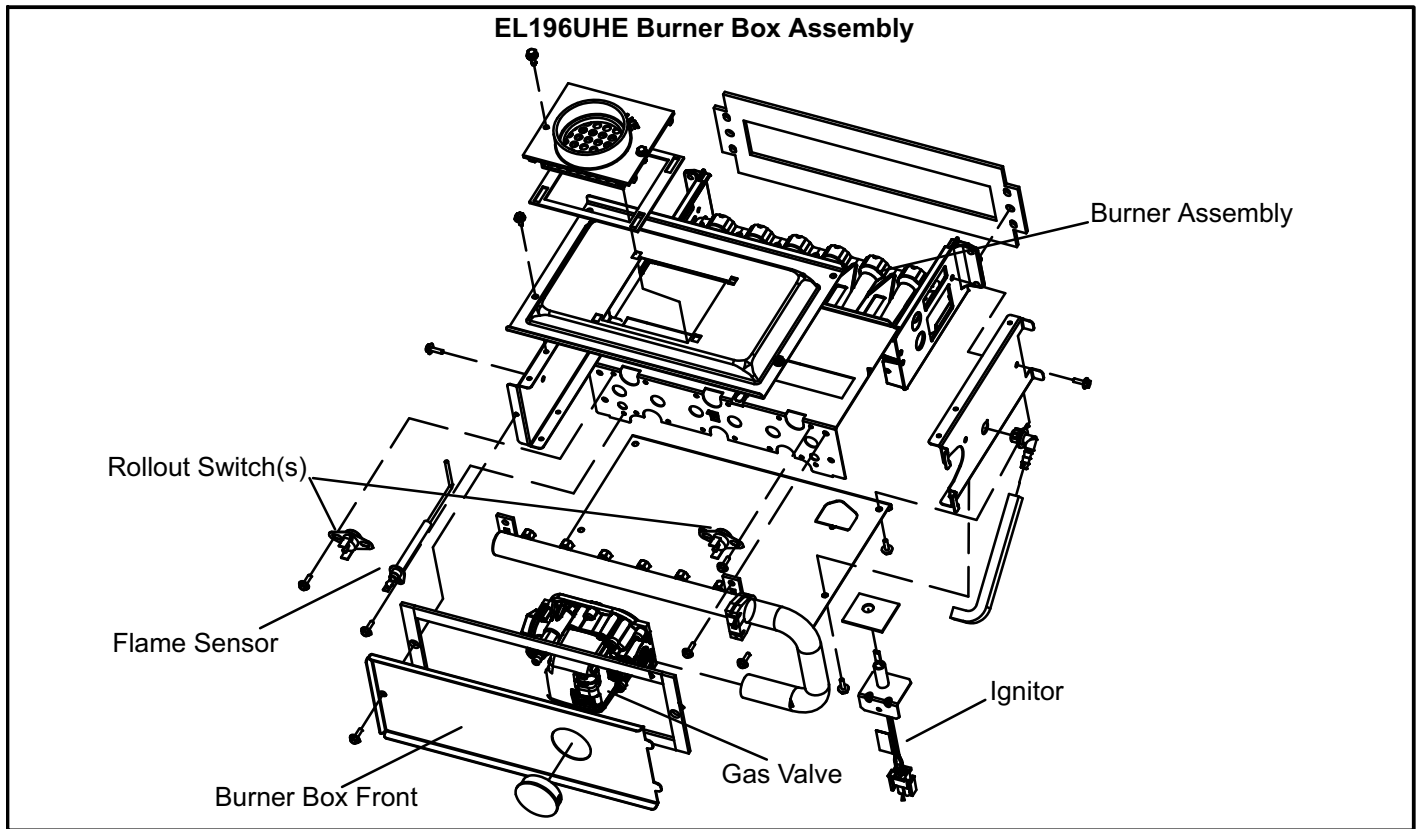

FIGURE 6
The hot surface ignition control system consisting of an integrated control (figure 3 or 5 with control terminal designations in tables 1, 2 and 3), sensor and ignitor (figure 6). The integrated control and ignitor work in combination to ensure furnace ignition and ignitor durability. The integrated control, controls all major furnace operations. The integrated control also features a RED LED for troubleshooting and two accessory terminals rated at (1) one amp. See table 4 for troubleshooting diagnostic codes. The nitride ignitor is made from a non-porous, high strength proprietary ceramic material that provides long life and trouble free maintenance.
1. Flame Rollout Switches (Figure 6)
5. Flame Sensor (Figure 6)
6. Ignitor (Figure 6)